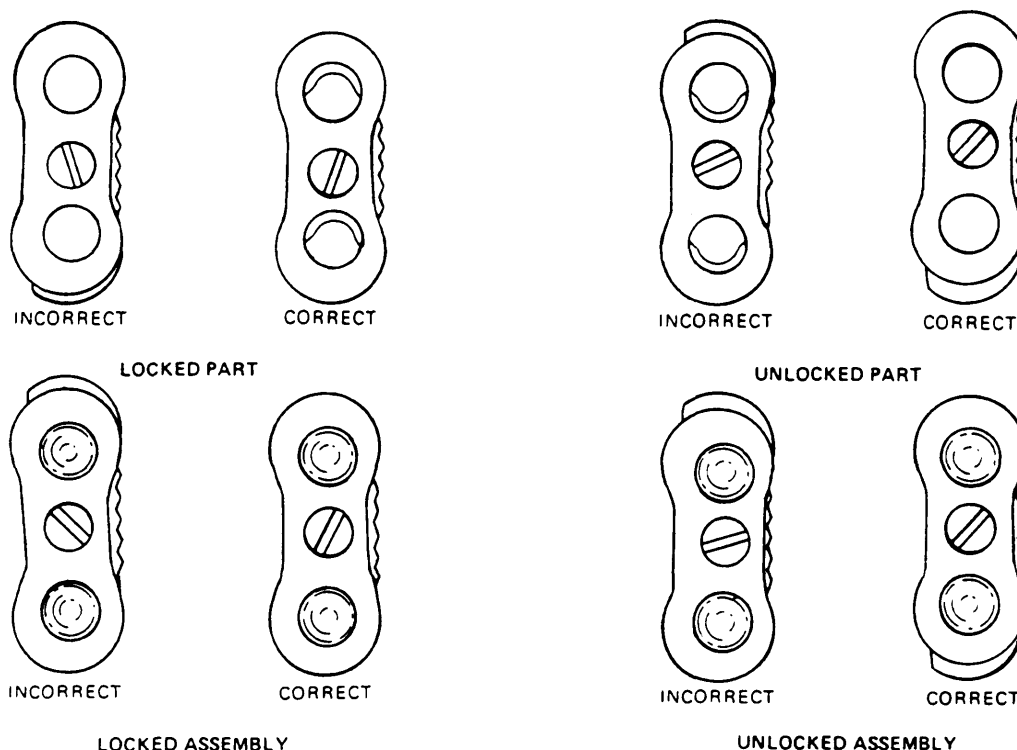

Figure 1-18.—Locked and unlocked connector links.
2. If required, examine the yoke and plate assembly for proper installation (fig. 1-18). When the yoke and plate assembly screw is tightened, there should be a maximum of 1/64-inch play in the assembly. (To tighten the screw use a torque of 20 to 25 lb-in.)